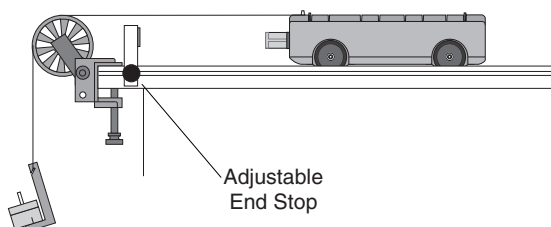

Figure 8.1 Equipment Setup
For a car of mass \mathbf{m}_1 on a horizontal track with a string attached over a pulley to a mass \mathbf{m}_2 (see Figure 8.1), the net force \mathbf{F} on the entire system (car and hanging mass) is the weight of hanging mass, $\mathbf{F} = \mathbf{m}_2\mathbf{g}$, assuming that friction is negligible.
3. Attach the pulley to the end of the track as shown in Figure 8.1. Place the PAScar on the track and attach a string to the hole in the end of the car and tie a mass hanger on the other end of the string. The string must be just long enough so the car hits the stopping block before the mass hanger reaches the floor.